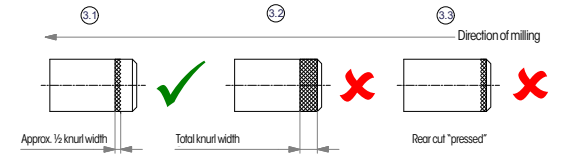

Fig. 3: Check of the knurl impression
With correct use, the knurl impression is approx. 1/3 of the width of the knurling wheel (Fig. 3, ref. 3.1)
If a knurl impression is created as shown in Figure 3, ref. 3.2 or 3.3, the clearance angle of both knurling wheels must be corrected with the adjustment spindle (Fig. 1, pos. 5; Fig. 2, pos. 7). For this purpose, refer to chapter 2, ref. 3 "Clearance angle pre-setting". Note: The optimal setting must be determined in the process!